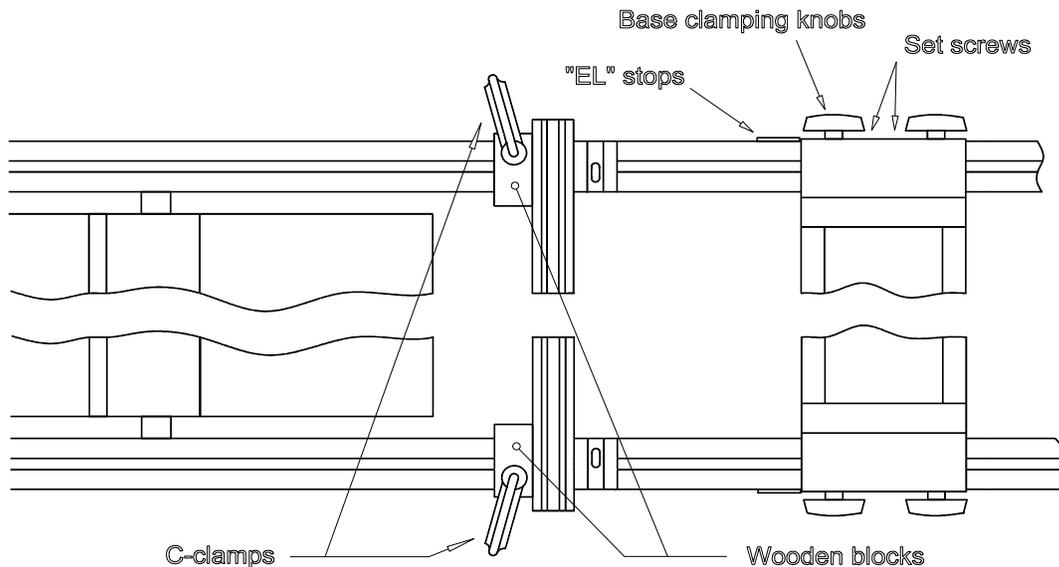

Fig. 1- Scrap wood blocks clamped to rails
4. Clamp scrap blocks of wood onto the infeed and outfeed main rails so they rest *gently* against the face of the fence. (Fig. 1)